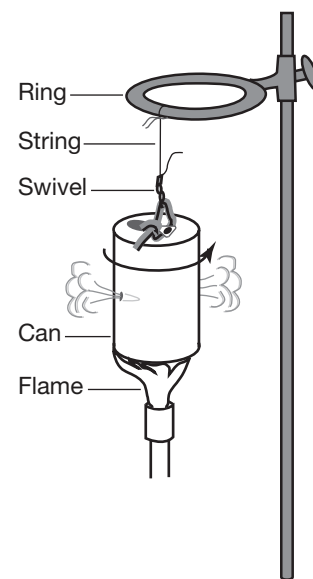

Figure 5.
8. Attach a ring clamp to a support stand, and tie a length of string to the outside edge of the ring. Tie the other end to the fishing swivel about 1 cm below the ring, and cut off any extra string. Reattach the loop of string by sliding it under the pull tab as in Step 1 (see Figure 5).
1. Establish a cool flame on a Bunsen burner and place it under the can, adjusting the ring height if necessary (see Figure 5).